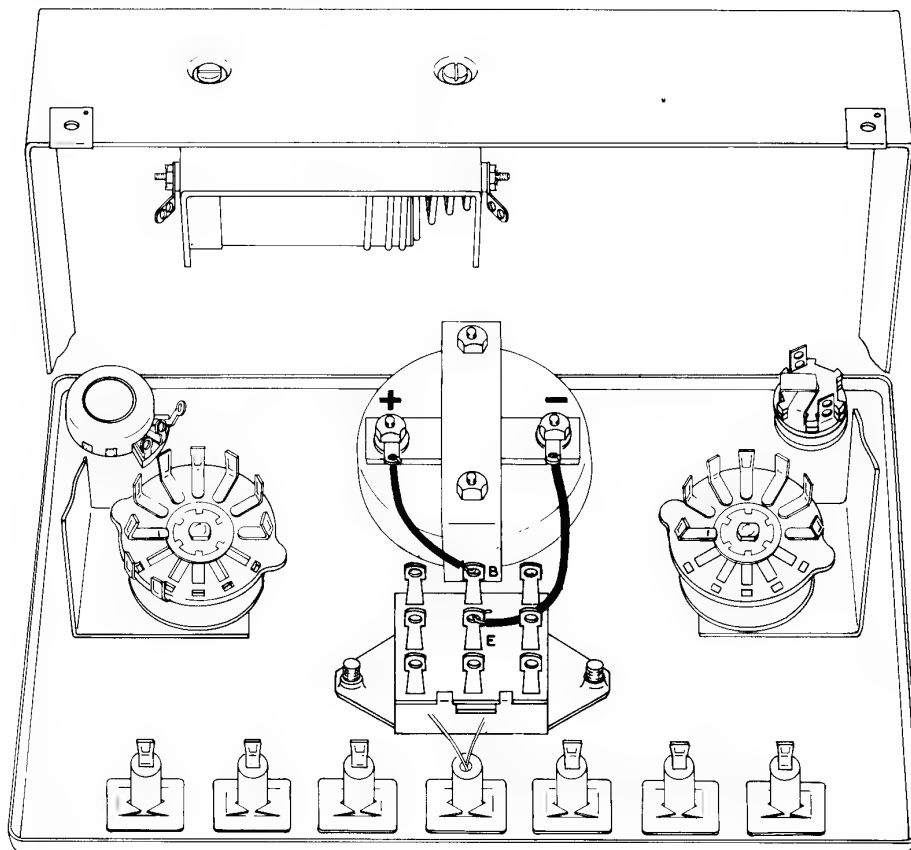

Figure 3-15
- (/) Unsolder the wire from the red banana jack. Trim this wire appropriately and resolder it to slide switch terminal (B). See Figure 3-15.
- () In the same manner, unsolder the wire from the black banana jack, trim and resolder it to slide switch terminal (E), Figure 3-15.